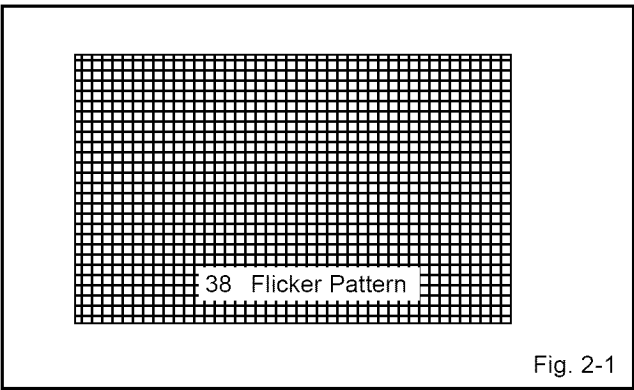

Fig. 2-1
1. Activate the adjustment mode display of **Fig. 1-2** and press the CH. UP/DOWN button to select "38 Flicker Pattern". (**Refer to Fig. 2-1**)